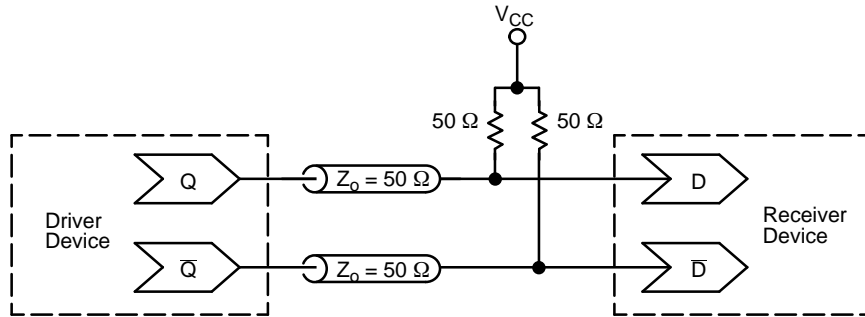

Figure 10. Typical Termination for Output Driver and Device Evaluation
4. CML outputs require  $50\ \Omega$  receiver termination resistors to  $V_{CC}$  for proper operation (Figure 10).